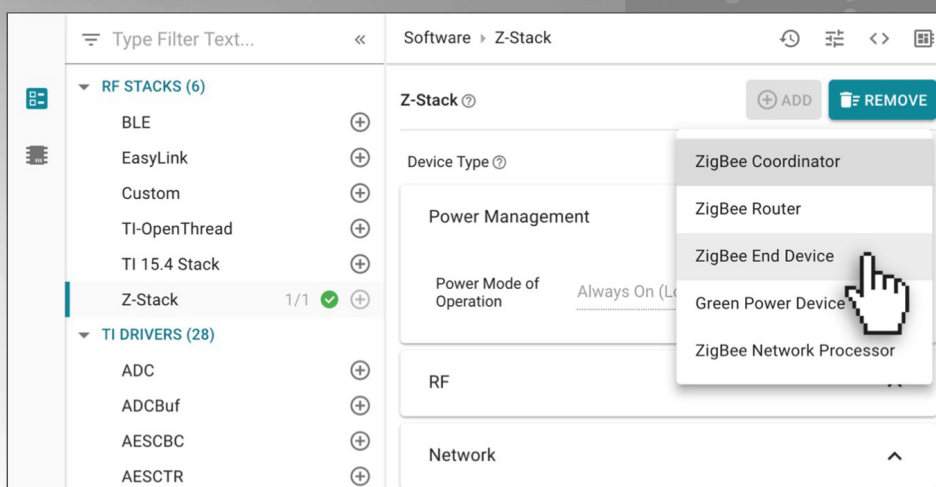

Figure 2. An example stack configuration view
SysConfig's device view is useful for custom hardware development with a similar level of information. Software views, such as the one shown in Figure 2 for Z-Stack configuration, provide a comprehensive view of configurable parameters. A list of options is displayed for each parameter (Zigbee device type in this example). The default setting is being changed from Zigbee Connector to Zigbee End Device with a simple mouse click. Hover over the "?" icon with a mouse and additional details on these parameters will be displayed while the newly updated software will be shown in the preview pane. With this initial release, SysConfig supports the configuration of pins and drivers for most SimpleLink™ MCUs, including the configuration of radio-frequency (RF) parameters and stacks for wired and wireless communication technologies like Wi-Fi®, Ethernet, Bluetooth®, Zigbee®, Thread, 15.4 and EasyLink. It also supports multiprotocol configuration. You can easily update the default settings to quickly find the optimal combination of RF and stack settings for your use case. You can also export the parameters to other TI tools, including TI's Smart RF™ Studio, for further testing and tuning.